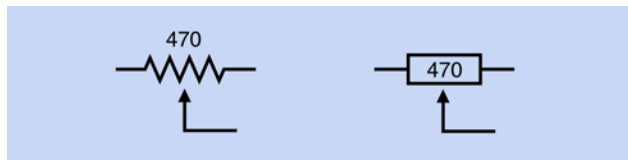

Figure 2-45 The lefthand symbol for a potentiometer is used in the United States, while the righthand symbol originated in Europe.
4. Potentiometer. In Figure 2-45 the lefthand symbol is used in the United States, while the righthand symbol originated in Europe. In both symbols, the arrow identifies the wiper in the potentiometer. The value of 470 ohms was selected arbitrarily.